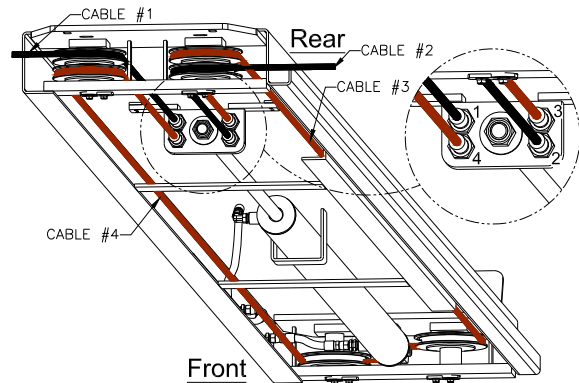

Fig 10 – Cable Layout
- 15) At the rear of the power runway, continue routing cables #3 & #4 to the front of the power runway sheaves, **Fig 10**.